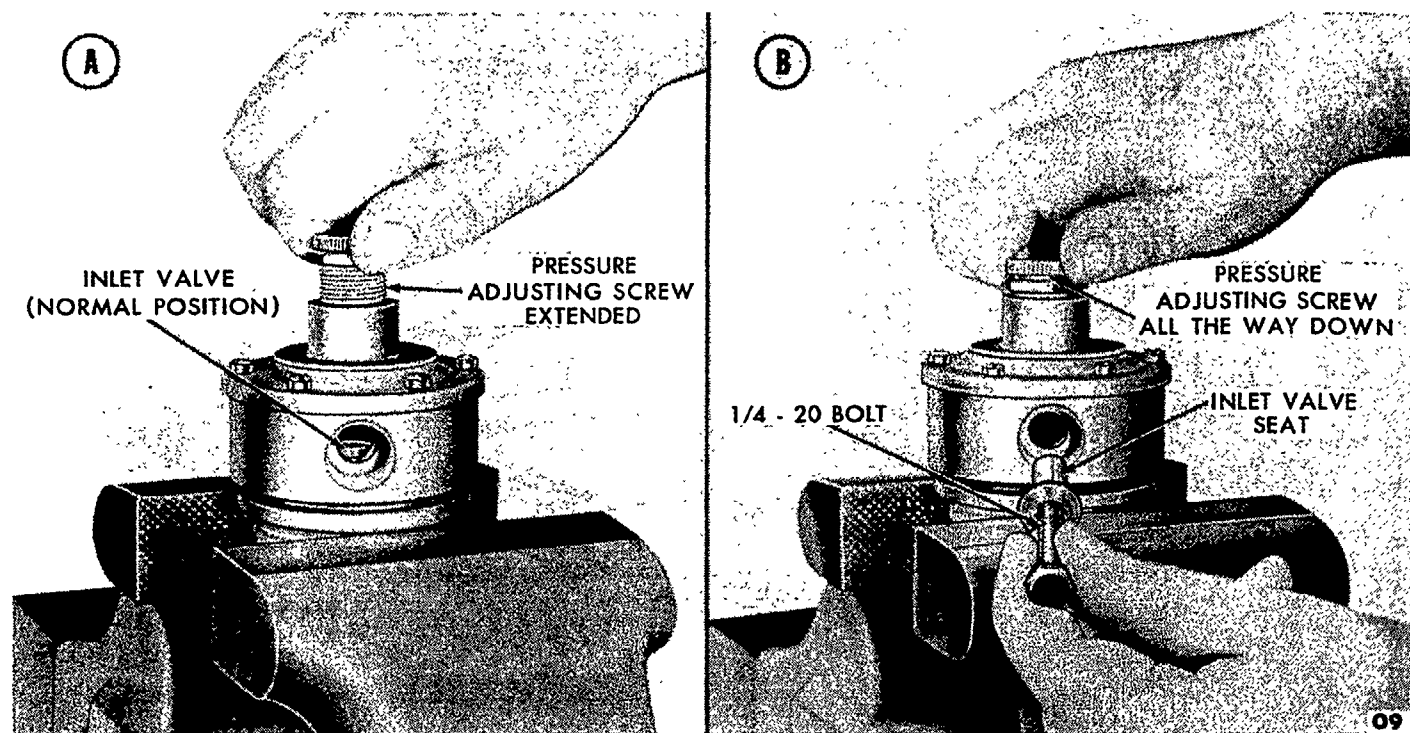

Figure 18—Removing Vaporizer Inlet Valve
normal position interferes with the removal of the inlet valve, (A), Figure 18.
3. Screw a 1/4-20 bolt into the inlet valve, (B), Figure 18, and remove the valve.